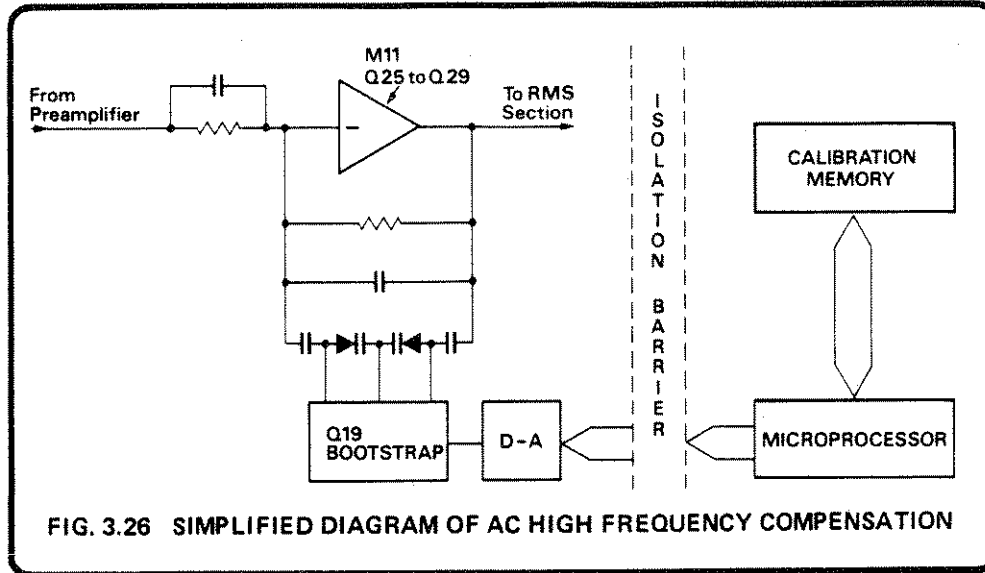

FIG. 3.26 SIMPLIFIED DIAGRAM OF AC HIGH FREQUENCY COMPENSATION
During the calibration cycle, the microprocessor notes and stores the high frequency (HF) error of each range. When AC volts is selected the compensation information for a particular range is recalled by the microprocessor, transferred across the isolation barrier and latched on to M13, M14 (Drawing No. 430328 sheet 5), see Fig. 3.26. As in the case of the Input Current Compensation (section 3.2.2.5), the output from the latches is applied to a digital-to-analog converter, AN2. The voltage produced is
During the calibration cycle, the microprocessor notes and stores the high frequency (HF) error of each range. When AC volts is selected the compensation information for a particular range is recalled by the microprocessor, transferred across the isolation barrier and latched on to M13, M14 (Drawing No. 430328 sheet 5), see Fig. 3.26.